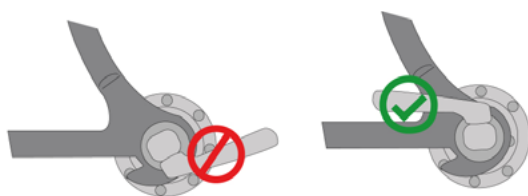
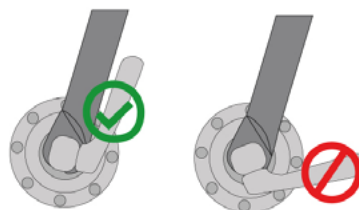

Figure 11
Figure 12
- Press the wheel firmly into the dropouts, align the wheel with respect to the fork, align the quickrelease lever with the fork arm and then switch it to the closed position. Make sure the quick release lever ends up being parallel to the fork arm as shown on figure 11 and figure 12.
- Place the chain on the smallest sprocket of the cassette. Position the wheel axle in the dropouts and push vigorously as shown on figure 11;